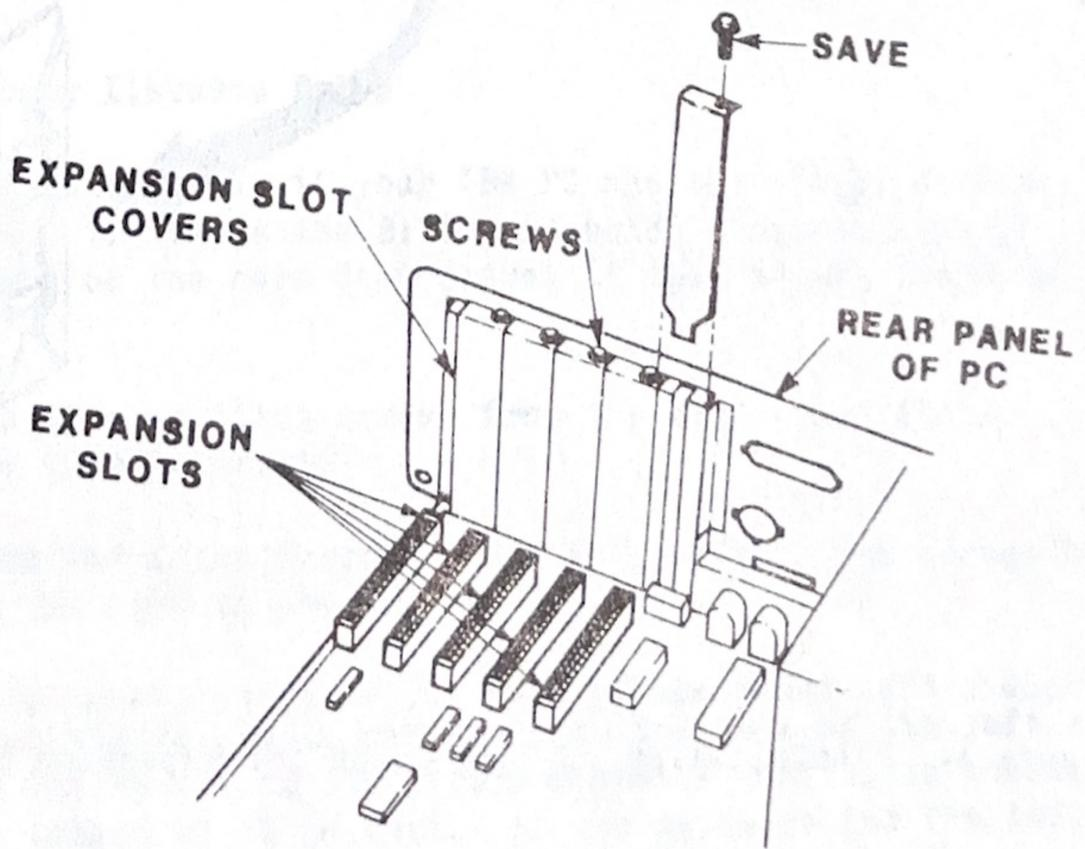
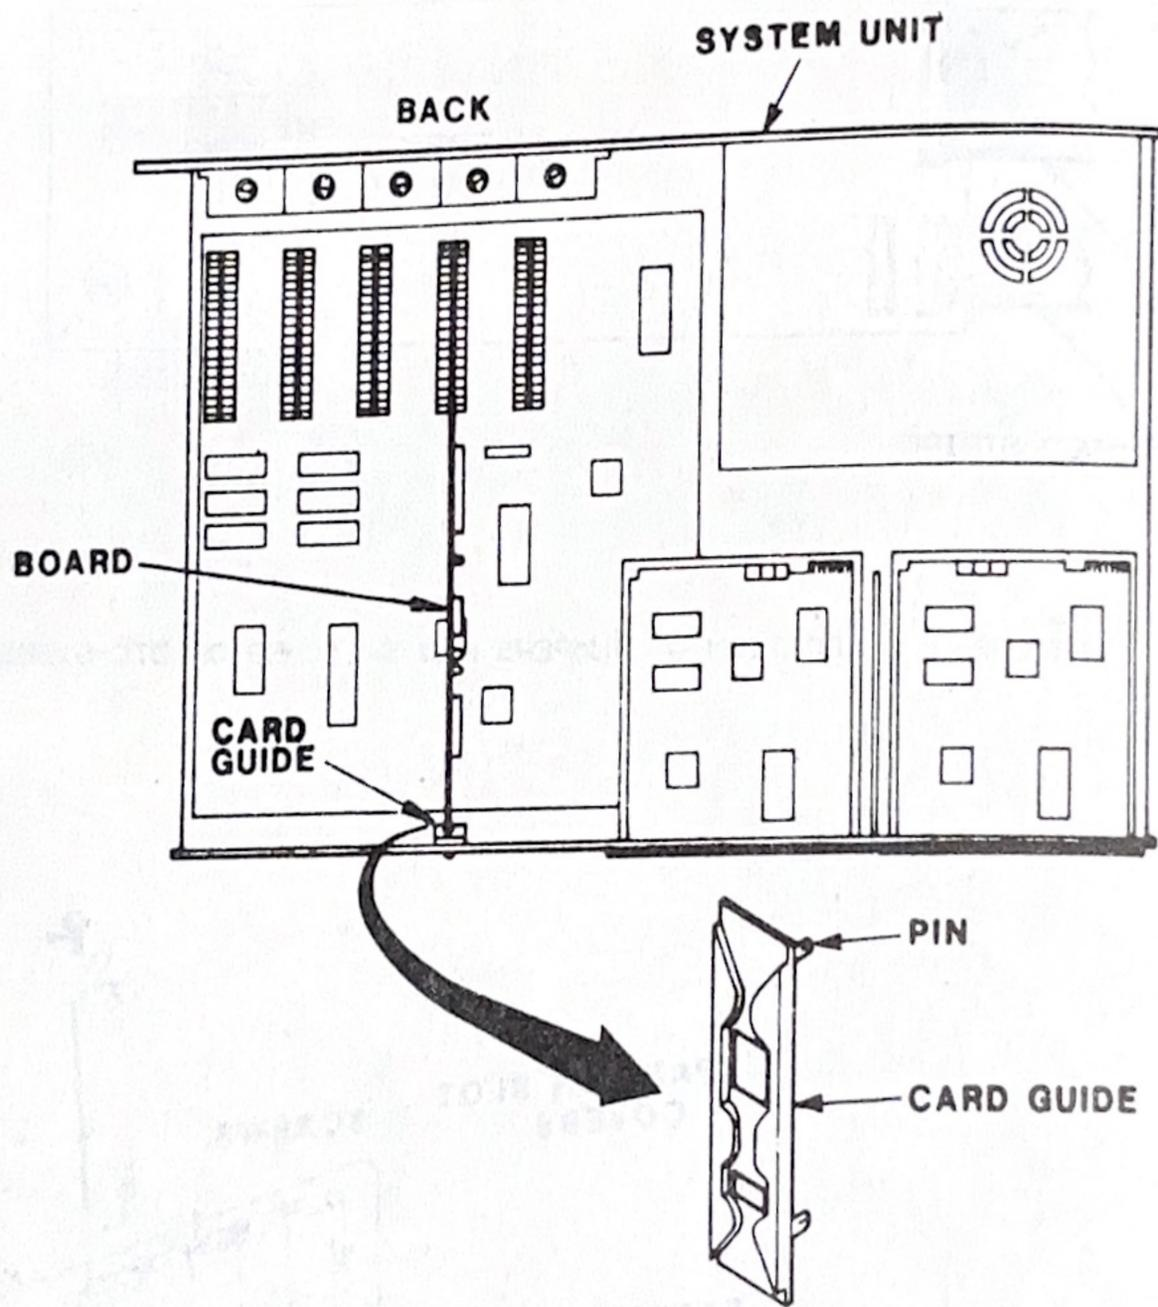

Figure 2. Expansion Slots in System Unit
Figure 3. Installation of Card Guide for Expansion Slot
- a. Look inside the System Unit. In the left rear are five expansion slots (See Figure 2). Some may already be filled. Choose one of the empty slots, avoiding the leftmost slot. Cabling is easiest from the slots toward the right, as shown in Figure 3.
- b. Remove the corresponding system expansion slot cover screw, and pull out the cover (See Figure 2). Save both items.
- c. Pop the plastic card guide into the predrilled holes in the front of the System Unit which correspond to that expansion slot. (See Figure 3).